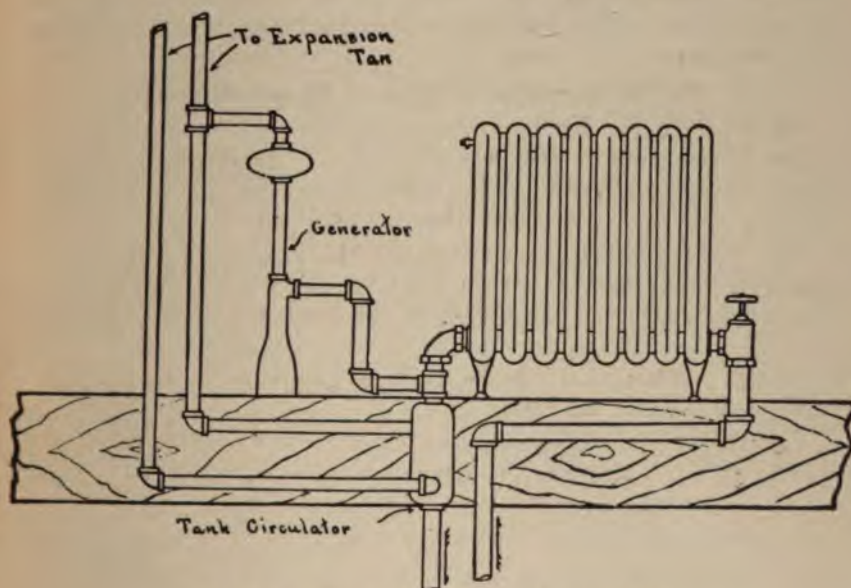

Fig. 72.—The Honeywell Tank Circulator.
A. The tank cannot be circulated in the ordinary manner without destroying the pressure caused by the accelerator. It is therefore necessary to use a small heater called a tank circulator. This is a hollow casting having an inner and outer compartment. It is connected to the system in such a manner that the hot water in circulation passing through the inner compartment warms the water in the outer compartment which is connected directly to the tank. Fig. 72 shows the Honeywell tank circulator and a method of connecting it to the heating system.